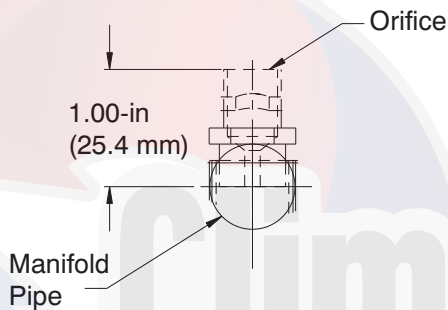

Fig. 62 - Orifice Projection
Orifice projection — Refer to Fig. 62 for maximum projection dimension for orifice face to manifold tube.
5. If factory orifice has been removed, check that each orifice is tight at its threads into the manifold pipe and that orifice projection does not exceed maximum valve. See Fig. 62.
Check that each replacement orifice is tight at its threads into the manifold pipe and that orifice projection does not exceed maximum value. See Fig. 62.